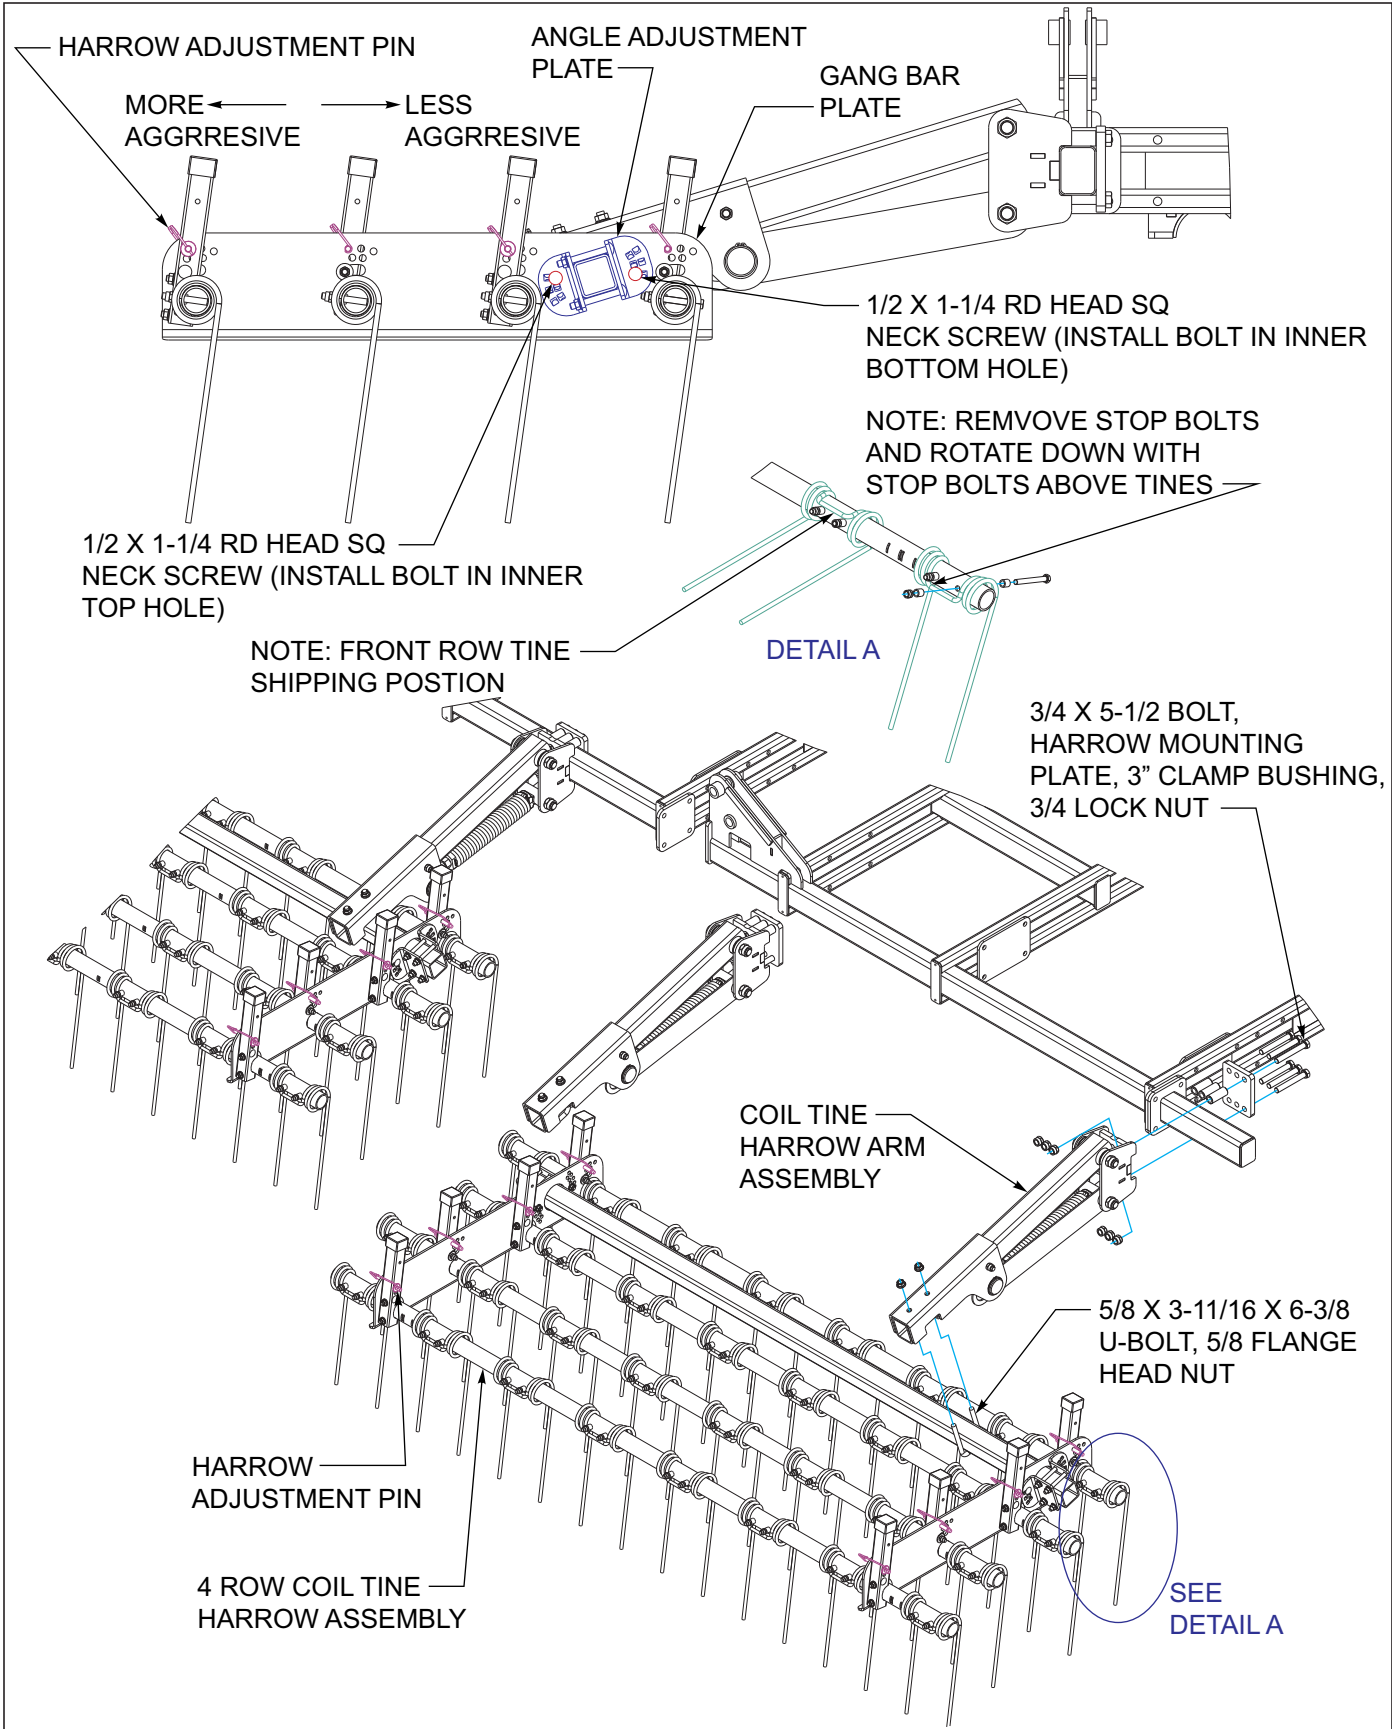

Figure 3-20: 4 Row Coil Tine Harrow Installation
1. Attach coil tine harrow arms to the rear of the field cultivator See Figure 3-20, according to placement dimensions. Clamp bushings are installed on the top mounting bolts.
3. Front row tines are assembled with the tines above the stop bolts to prevent damage when shipping See Figure 3-20 Detail A. Remove front tine bolts and reinstall, with stop bolts above tines.